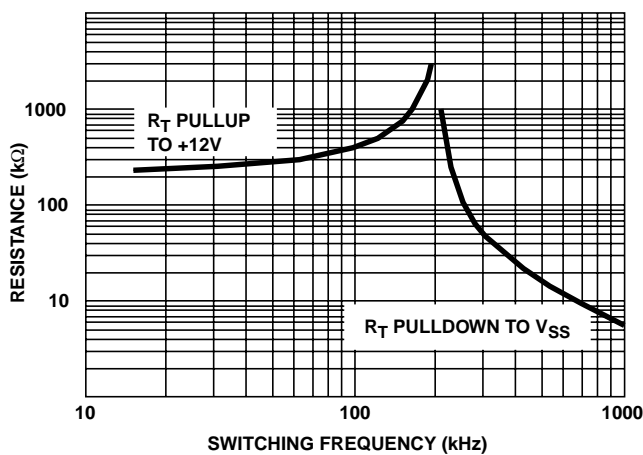

FIGURE 1.  $R_T$  RESISTANCE vs FREQUENCY
Recommended Operating Conditions, Unless Otherwise Noted. Refer to Figures 1, 2 and 3
**Electrical Specifications** Recommended Operating Conditions, Unless Otherwise Noted. Refer to Figures 1, 2 and 3 **(Continued)**
The HIP6020A monitors and precisely controls 4 output voltage levels (Refer to Figures 1, 2, and 3). It is designed for microprocessor computer applications with 3.3V, 5V, and 12V bias input from an ATX power supply. The IC has 2 PWM and two linear controllers. The first PWM controller (PWM1) is designed to regulate the microprocessor core voltage ( $V_{OUT1}$ ). PWM1 controller drives 2 MOSFETs (Q1 and Q2) in a synchronous-rectified buck converter and regulates the core voltage to a level programmed by the 5-bit digital-to-analog converter (DAC). The second PWM controller (PWM2) is designed to regulate the advanced graphics port (AGP) bus voltage ( $V_{OUT2}$ ). PWM2 controller drives a MOSFET (Q3) in a standard buck converter and regulates the output voltage to a level of 1.5V or fully on to output 3.3V. Selection of either output voltage is achieved by applying the proper logic level at the SELECT pin. The two linear controllers supply the 1.5V GTL bus power ( $V_{OUT3}$ ) and the 1.8V memory power ( $V_{OUT4}$ ).